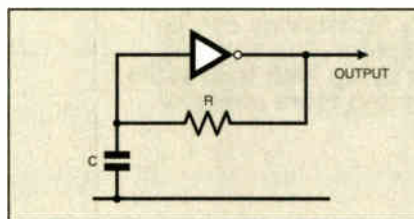

Fig.1. Simplified RC oscillator.
The circuit diagram in Fig.1 shows how an oscillator can be made from three building blocks: an inverter, resistor R and capacitor C. The approximate time (T) for one wavelength of such an oscillator is given by the formula $T = 1.1CR$. In other words if R is kept constant, T and C are directly proportional: the period of one wavelength is doubled if C is doubled, halved if C is halved, and so on.